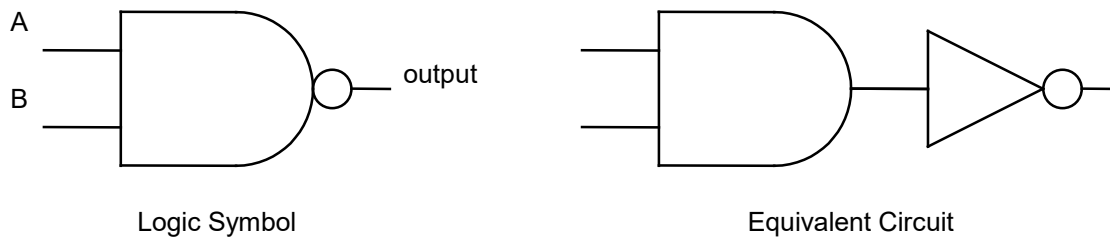

Figure 2: NAND
5.1.1 Figure 2 shows the logic symbol, and an equivalent circuit for a **two-input NAND gate**.